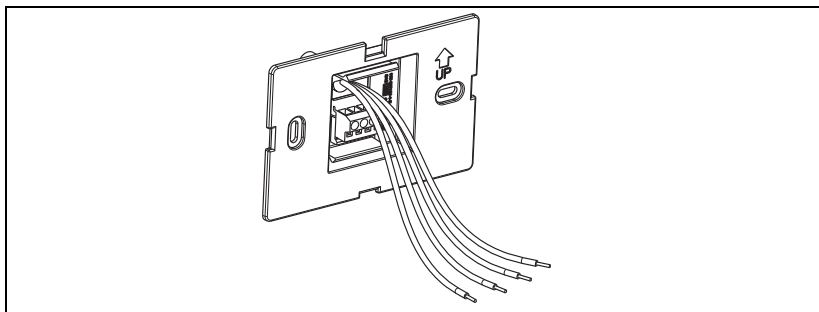

FIGURE 3: Wires Pulled Through Mounting Back Plate
8. Pull low voltage wires through the mounting back plate as shown in Figure 3.